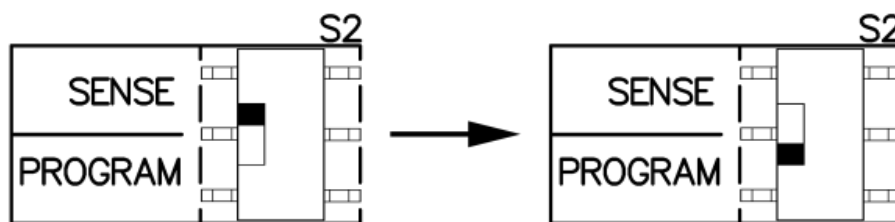

Figure 5.1 Programming switch S2.
- ☐ Move slide switch S2 to programming. See Figure 5.1